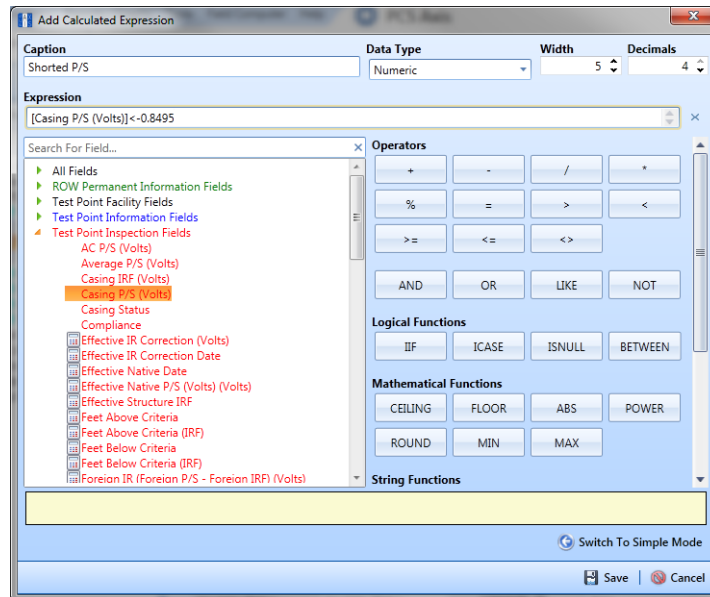

Figure 3-35. Add Calculated Expression (Advanced Mode)
- Click  **Calculated** in the toolbar to open the *Add Calculated Expression* dialog box. If you want to work with the expression editor in advanced mode, click  **Switch To Advanced Mode** (Figure 3-35).